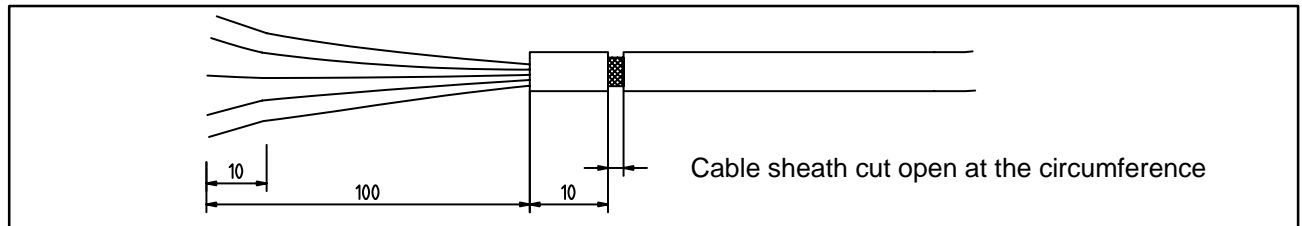

Fig. 2.2: Notched cable sheath
1. The shield can be accessed through a notch in the cable sheath (see Fig. 2.2).